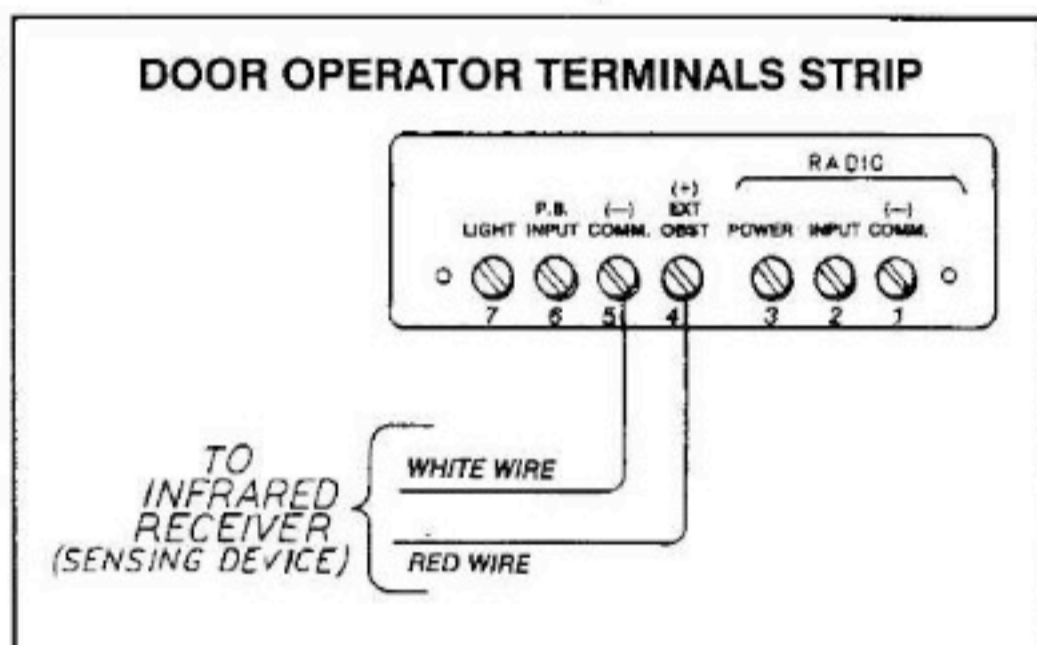

FIGURE 3
2. Provide a suitable support to mount the front wall bracket. Use a 2 x 4 or 2 x 6 wood block and span studs if necessary. The front wall bracket may also be fastened directly to the header. Figure 3.
4. Locate the front wall bracket as shown in figure 3. Mount using 5/16 x 1- 5/8 or 5/16 x 2 lag bolts (not furnished with operator).